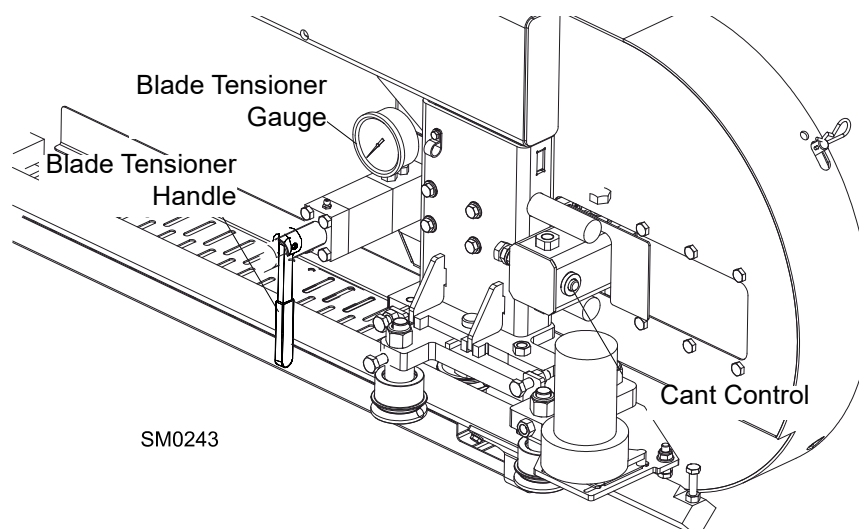

FIG. 2-10
See **Figure 2-10**. Tension the blade by turning the hydraulic tensioning handle clockwise until the tension gauge indicates the recommended tension.
5. To adjust where the blade travels on the blade wheels, use the cant control shown in **Figure 2-10**.